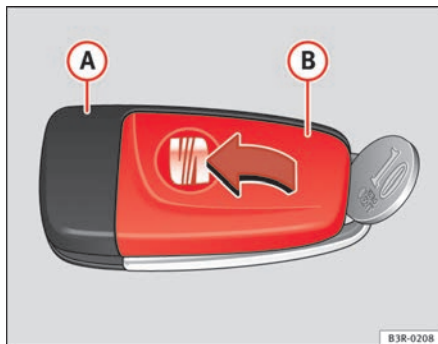

Fig. 68 Master key:
- **Carefully** prise apart the key ⇒ fig. 68 **A** and the cover **B** using a coin.